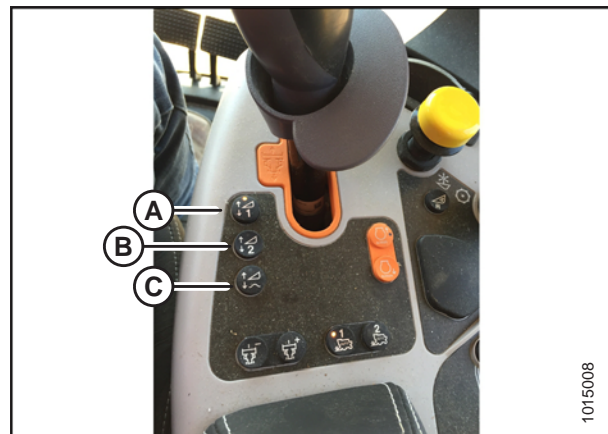

Figure 6.116: New Holland Combine Controls
5. Select one of auto height set point buttons shown in Figure 6.116, page 122.